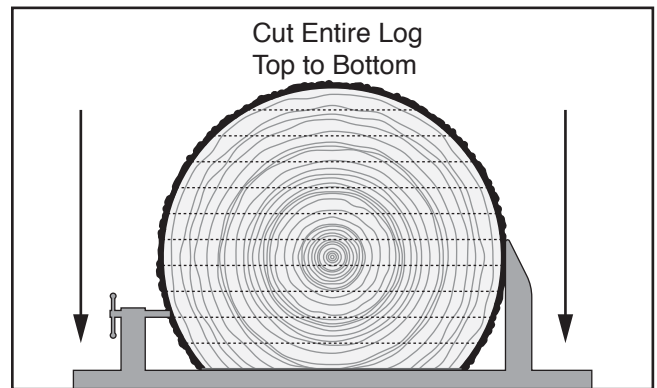

Figure 45. Log rotated 180° for live sawing.
5. Rotate log 180° and secure with log supports and log clamp (see **Figure 45**).